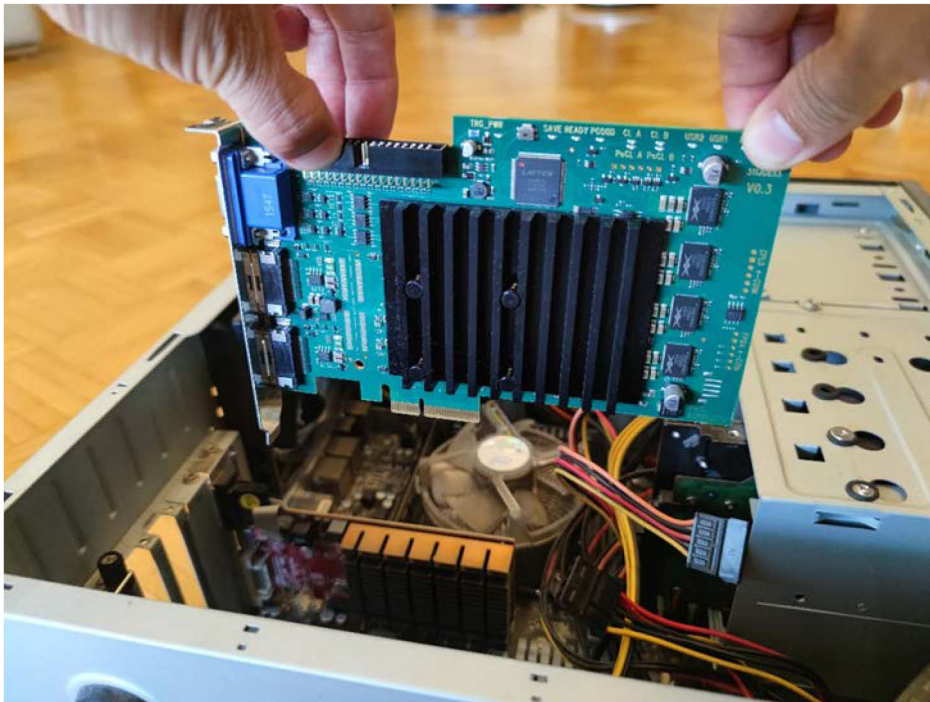

Figure 6: Holding Frame Grabbers and Interface Cards While Inserting it Into the PCIe Slot
4. Hold frame grabbers and interface cards with both hands as illustrated in Figure 6.